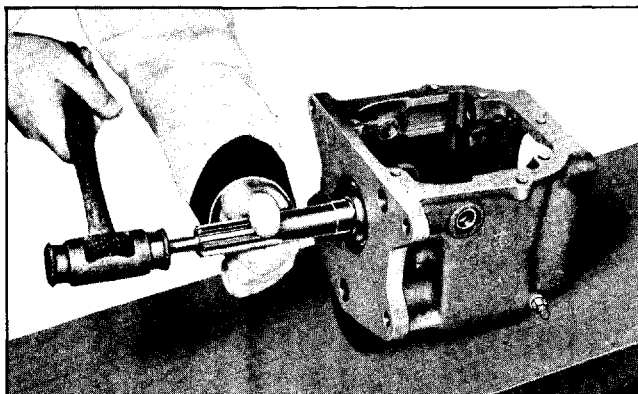

Fig. 7-24 Removing Main Drive Gear and Bearing Snap Ring
10. Remove snap ring from front bearing outer race and tap main drive gear with bearing toward rear and remove entire assembly from case (Fig. 7-24).